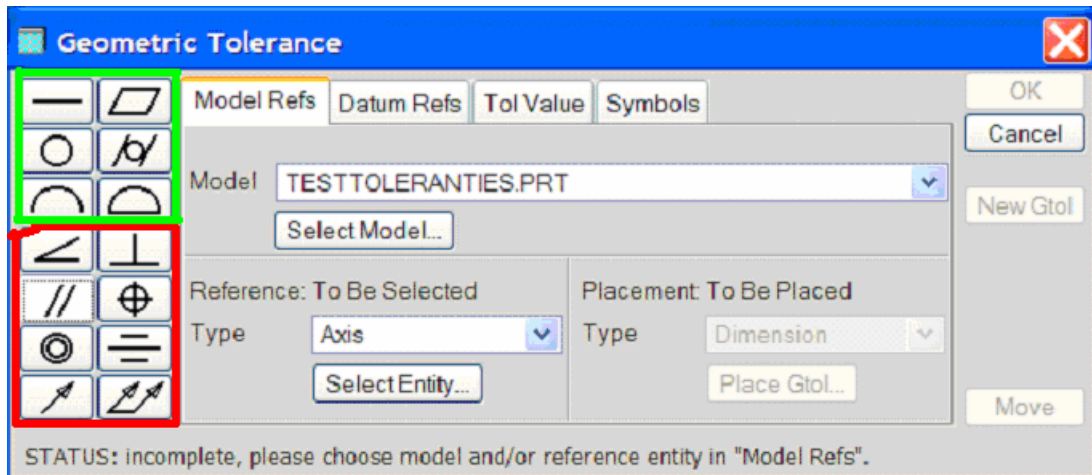

Figure 5 Geometrical tolerance box
Geometric tolerances describe the tolerance on shapes (marked in green in figure 5), or location of an entity relative to another entity (marked in red in figure 5).
- Setup datum if necessary: a datum can be a datum axis line or a datum plane, depending on the tolerance you are setting. Datum references are necessary when setting up placement Gtols (marked in red in figure 5).
- Datum Refs tab: select datum (plane, axis) with a placement GTol (for Gtols marked in red in figure 5).